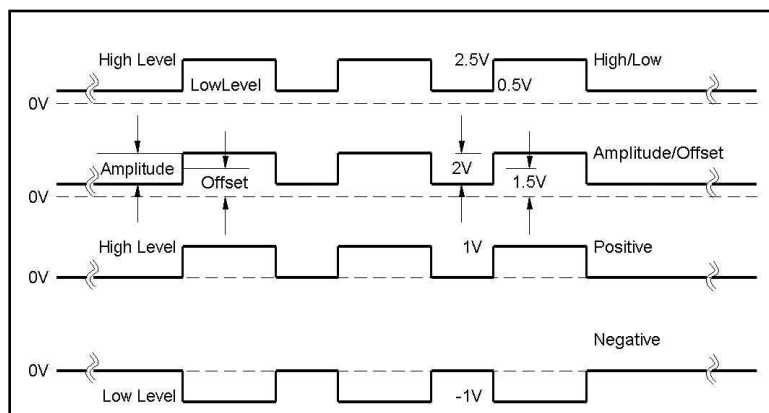

Figure 3-71, Amplitude Level Modes Options
Using the WX2184C as your pulse source, you have four options to set up the pulse levels, as shown in Figure 3-71 and explained below:
1. **High/Low Levels.** This is the default option. Using this mode, you can program the high and the low levels directly, while allowing the instrument to set the internal amplitude and offset according to your selection. The maximum amplitude that can be programmed is 4 V peak-to-peak. To achieve this level, program the low level to -1.5 V and the high level to +1.5 V. Note that the amplitude level is specified when the pulse is applied on a 50 Ω load impedance. The only way to exceed the peak-to-peak rail limitation is by increasing the load impedance, but then expect degradation of the pulse shape. The example in Figure 3-71 shows the high level set at 2.5 V and the low level set at 0.5 V and therefore, the resulting peak-to-peak level is 2 V.
2. **Amplitude/Offset.** This option allows separate modification of the amplitude and the offset. This option is very useful when you want to vary the vertical position of the pulse, but hold the peak-to-peak amplitude level fixed. The example in Figure 3-71 shows the amplitude set at 2.5 V and the low level set at 1.5 V and therefore, the resulting waveform is exactly as was programmed in the high/low level programming example.
3. **Positive.** This option is very useful when you want to vary the positive position of the pulse, but hold the low level fixed at the 0 V level. The example in Figure 3-71 shows the high level set at 1 V and the low level fixed at 0 V. Modification of the high level will not alter the low level position.
4. **Negative.** This option is very useful when you want to vary the negative position of the pulse, but hold the high level fixed at the 0 V level. The example in Figure 3-71 shows the low level set at -1 V and the high level fixed at 0 V. Modification of the low level will not alter the high level position.